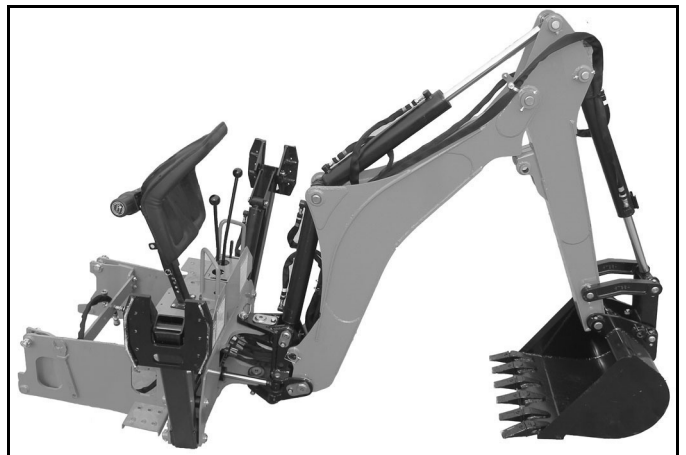

Figure 17. Backhoe Storage Position
11. Lower backhoe until backhoe main frame is firmly on the ground. Retract boom and dipper and place bucket cutting edge flat on the ground. See Figure 17. Connect transport lock and insert swing lock pin.